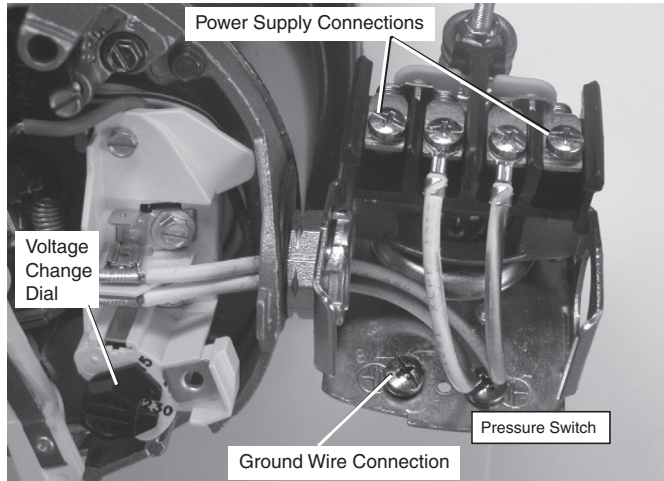

Figure 8: Voltage set to 230 volts, Dial Type
3. Attach the incoming power leads to the two outer screws on the pressure switch as shown in Figure 8.
4. Attach the ground wire to the grounding connections as shown in Figure 8.
- Step 1. Connect the ground wire first as shown in Figure 8. The ground wire must be a solid copper wire at least as large as the power supply wires.
- Step 4. Connect the power supply wires to the pressure switch as shown in Figure 8.